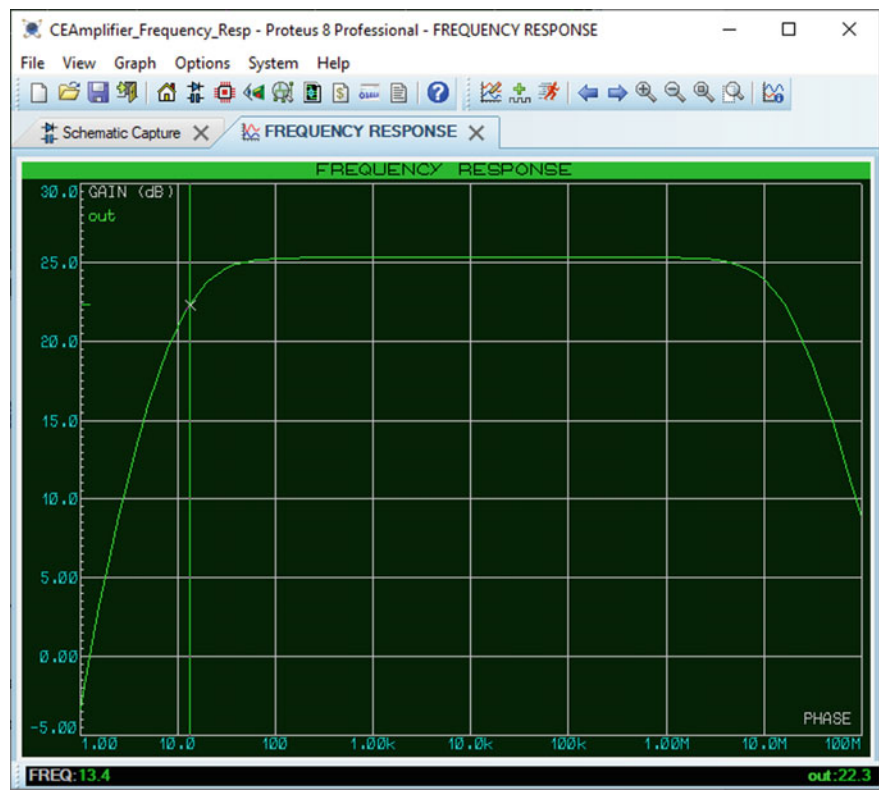

Fig. 2.180 Measurement of low  $-3\text{ dB}$  frequency
Let’s measure the  $-3\text{ dB}$  cut-off frequencies. We need to search for frequencies which gain decreases to  $25.3 - 3 = 22.3\text{ dB}$ . According to Fig. 2.180, lower cut-off frequency is  $13.4\text{ Hz}$ . According to Fig. 2.181, upper cut-off frequency is  $16.1\text{ MHz}$ . So, band width (BW) equals to  $f_{-3\text{ dB},H} - f_{-3\text{ dB},L} = 16.1\text{ MHz} - 13.1\text{ Hz} \approx 16.1\text{ MHz}$ .